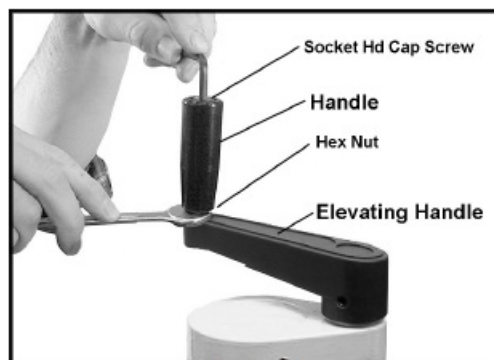

Figure 5
9. Install the small handle into the hole in the elevating handle (Figure 5). Screw the small handle into the hole, then tighten the hex nut down against the elevating handle using a 14mm wrench.